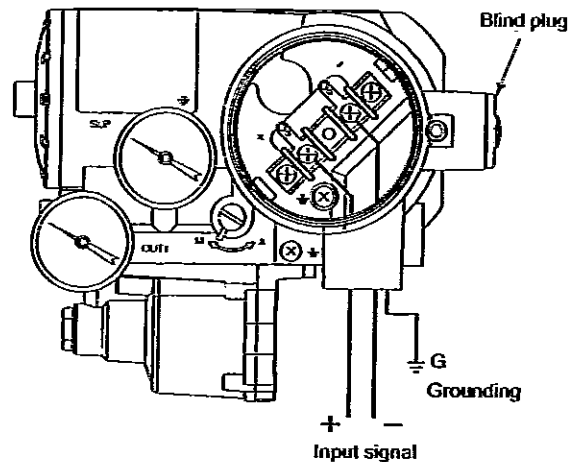

Figure 4.2 Wiring
- (1) Prevent the cables from being affected by noise induced from a high-capacity transformer or power supply to a motor.
- (2) As shown in Figure 4.2, remove the terminal box cover and dust proofing plug when performing a wiring connection. Be sure to securely seal the unused wiring port with a blind plug.
- (3) To make the cables watertight and to prevent them from being damaged, it is recommended to use a cable conduit and duct. Also for the same reasons, be sure to use a watertight adapter for the connection of the conduit to the port.
- (4) Ground the FVP110 to a pole with a grounding resistance of 100 Ω or less. There are two grounding terminals: one inside and another outside the terminal box. Use either terminal.